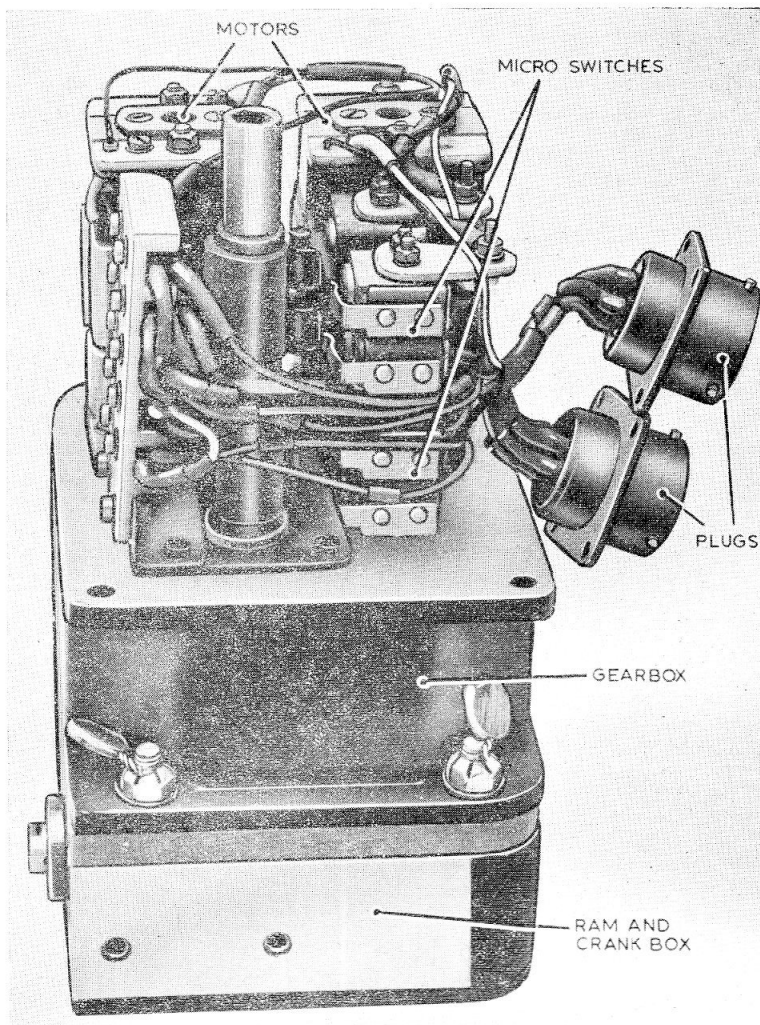

Fig. 4. Switch box
5. The motors used are of the series wound, split field type (fig. 4). Each motor is fitted with a solenoid operated brake. The brake coil is in series with the motor windings so that when the motor is energized, the brake is disengaged against a spring. When the circuit is broken by the limit switch, or failure in supply, the brake is applied by the spring, thereby locking the armature and its attendant gear train, and so locking one side of differential.
11. Limit switches are operated by means of cams situated on the crankshaft. The switches operate to interrupt the supply to the motors, and also to give an indication of the fully extended and retracted position of the ram. They are in two banks of four sealed switches. Two switches, connected in series, operate in each direction of motion (fig. 4).